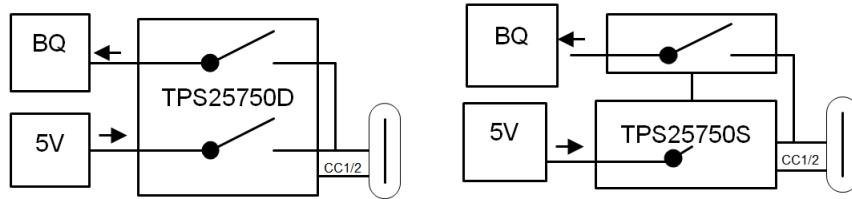

图 10-3. Power Source and Sink configuration with 5V DC and Battery Charger (BQ)
图 10-3 shows the configuration where a 5-V DC is connected to the source path and a Battery Charger (BQ) is connected to the sink path.